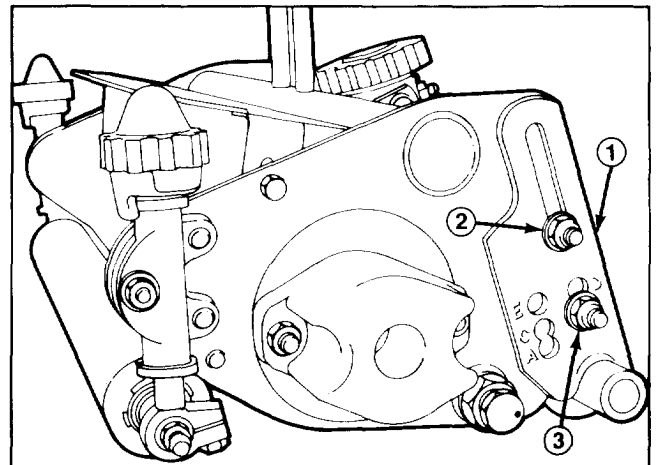

Figure 2
2. Assemble rear Height of Cut brackets to desired position, by loosening top capscrew and nut and removing bottom nut on right and left hand sides of cutting unit (Fig. 2).